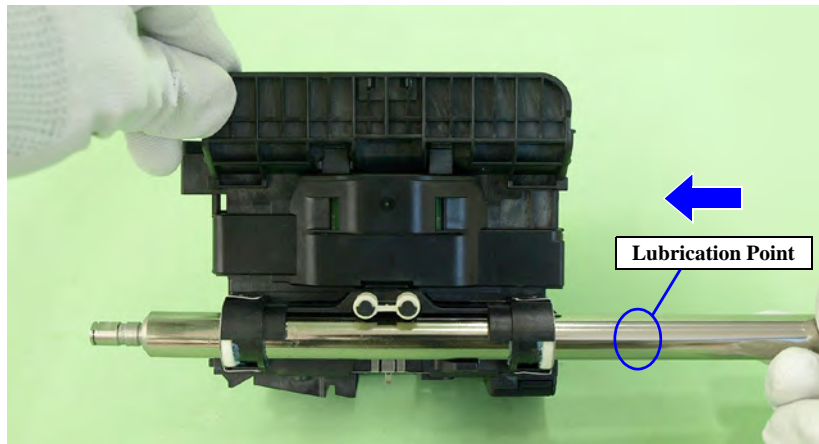

Figure 6-22. Lubricating the Carriage Shaft (4)
6. Lubricate grease with the syringe at the point shown in refer to Figure 6-22.